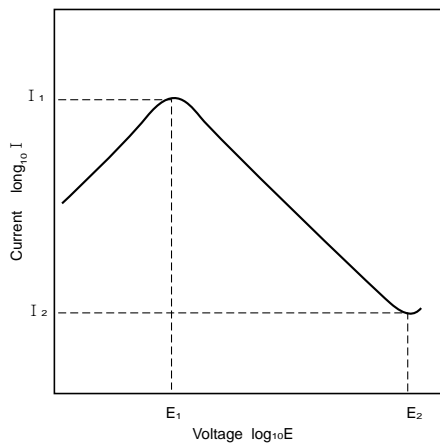
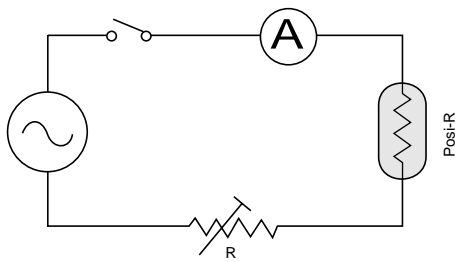
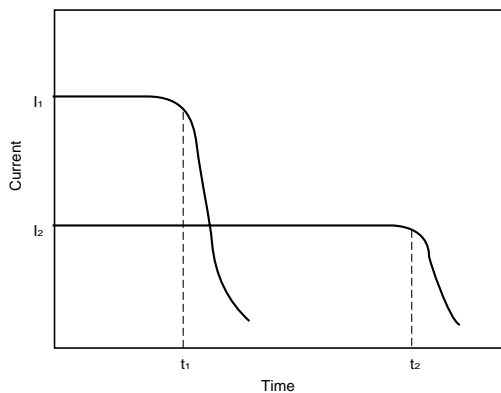

Fig. 4 Voltage / Current Characteristics
Fig. 5 Measuring Circuit
Fig. 6 Current / Time Characteristics
As seen in Fig. 4, the characteristic follows Ohm's law up to E₁ point. The current increases when the voltage is raised, provided that the temperature characteristics is within the range of switching temperature or lower. The range between E₁ and E₂ is over the switching temperature but within the constant range of power dissipation. However, beyond E₂ point, an excess power will run and Posi-R will result in breakdown, accordingly.
In the Fig. 5 circuit, when a load resistance (R) and a Posi-R are connected in series and an arbitrary voltage higher than E_1 in Fig. 4 is applied, the Posi-R will have inherent temperature due to a current flowing through it. Its temperature rises as time passes by, and it exceeds the switching temperature in a certain time, resulting in a rapid damp of the current. The trip time can be adjusted by the current volume as shown in Fig. 6.
When the parameters of I_1 , t_1 , I_2 and t_2 in Fig. 6 are expressed in a logarithmic graph in the manner of Fig. 7, an almost linear graph is formed and the relationship between the circuit current and the trip time can be obtained.